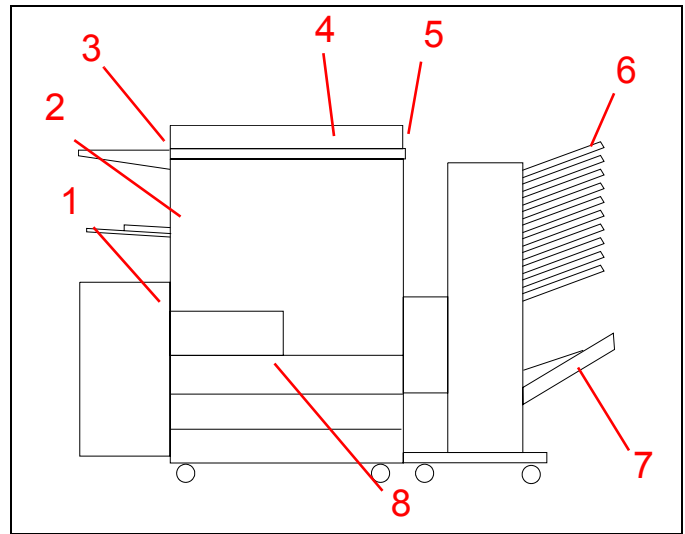

Figure 1
**Point out** each component as you describe it. See Figure 1.